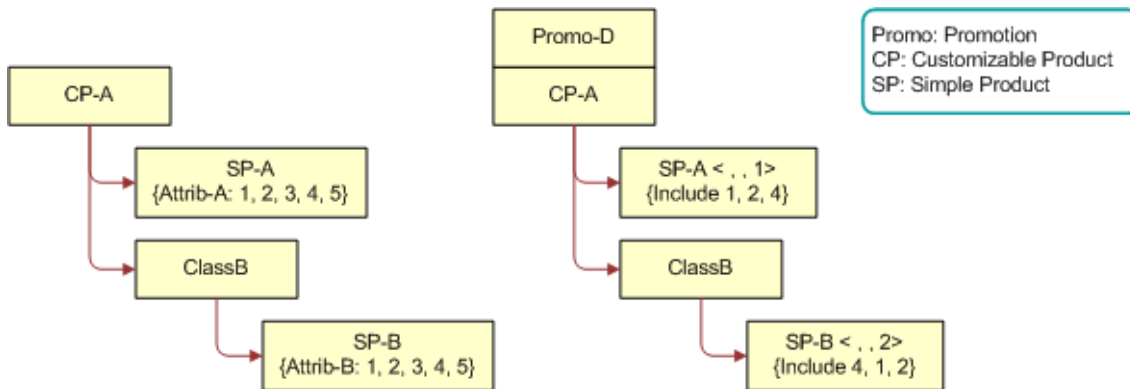

Figure 12. Product Structure for CP-A and Promo-D
- 1 A customizable product called CP-A is defined and a promotion called Promo-D is defined as shown in Figure 12.
Figure 12 shows a product called CP-A with the following structure: CP-A has a simple product relationship called SP-A defined and a Product Class called ClassB. Another simple product relationship called SP-B is defined and associated with ClassB. SP-A is associated with an attribute, Attrib-A, which has the values {1,2,3,4,5}. SP-B is associated with an attribute, Attrib-B, which has the values {1,2,3,4,5}.
Figure 12 shows a promotion called Promo-D, where CP-A has the following structure: CP-A has a simple product relationship called SP-A defined and a Product Class called ClassB. Another simple product relationship called SP-B is defined and associated with ClassB. For SP-A, Default is set to 1 and the attribute values 2 and 4 (of Attrib-A) are included for this relationship. For SP-B, Default is set to 2 and the attribute values 4, 1, and 2 (of Attrib-B) are included for this relationship.